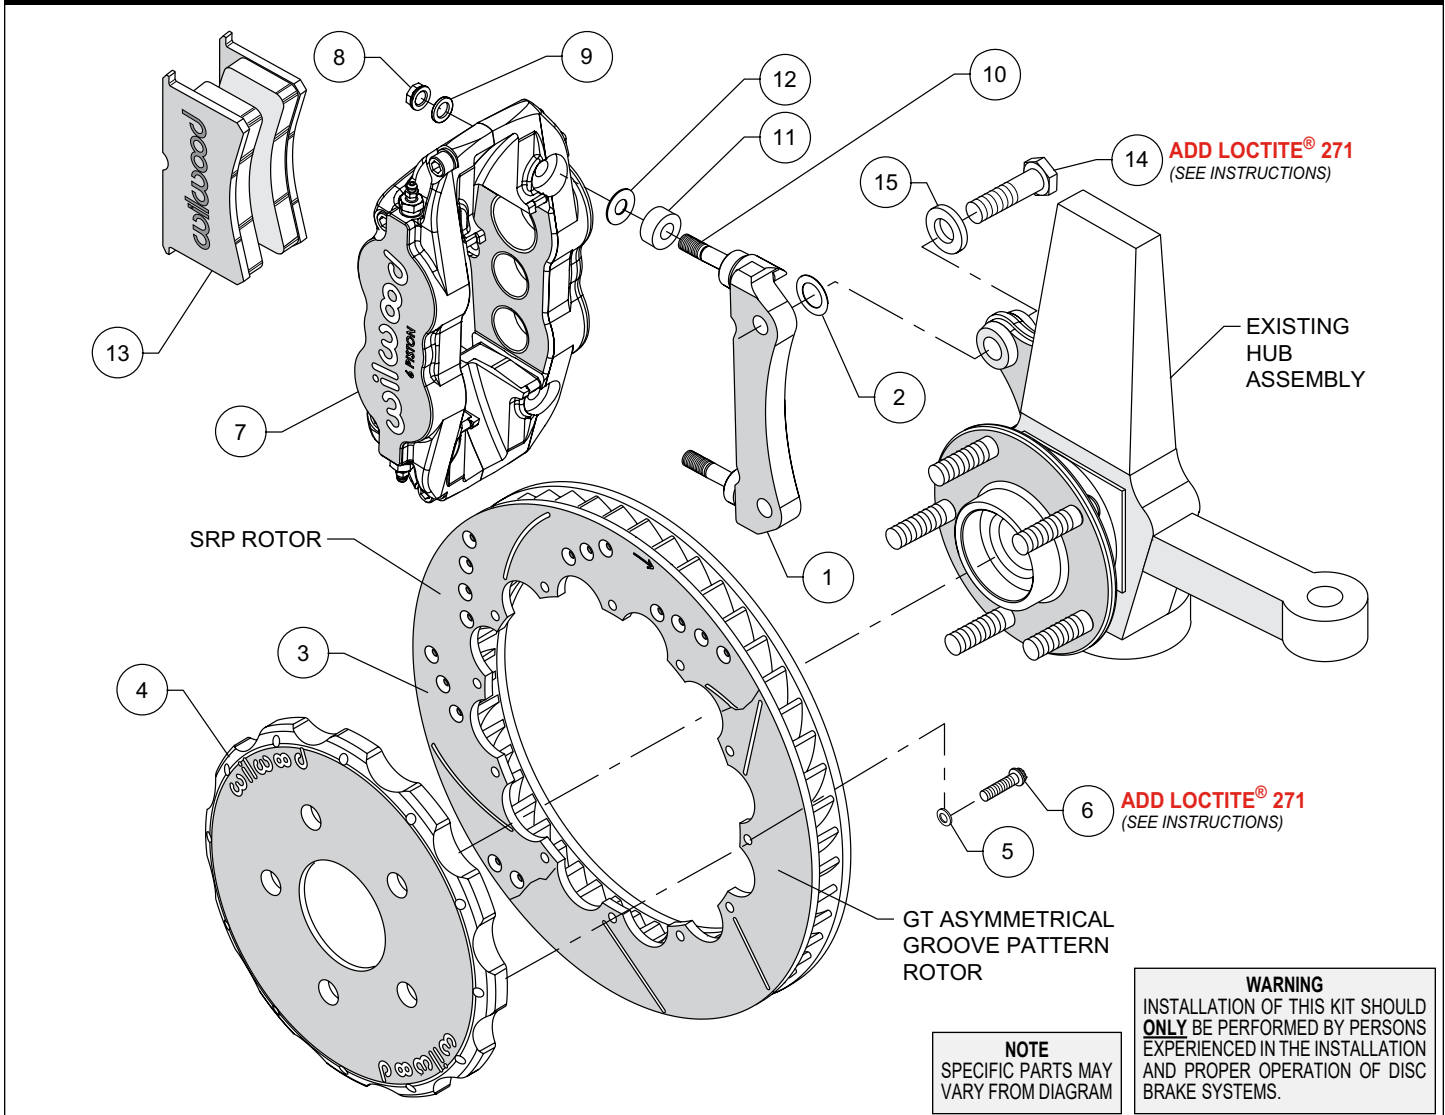
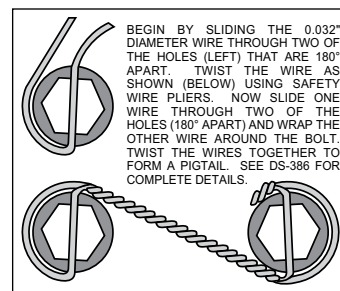

Figure 1. Typical Installation Configuration
Figure 3. Safety Wire Diagram
Assembly Instructions (numbers in parenthesis refer to the parts list and Figure 1 on the preceding pages):
- The caliper mount bracket (1) should initially be installed with clean, dry threads on the mounting bolts. Orient the bracket, as shown in Figure 1 and install using bolts (14) and washers (15). Initially place one .029" thick shim (2) on each bolt between the bracket and upright, Figure 1. Temporarily tighten the mounting bolts. **NOTE: The bracket must fit squarely against the mount bosses on the upright.** Inspect for interference from casting irregularities, machining ridges, burrs, etc. Later, after the caliper alignment has been checked, the mount bolts will be secured using red *Loctite*® 271.
- Orient the rotor (3) and the hat (4) as shown in Figure 1 and Photo 1. Attach rotor to hat using bolts (6) and washers (5). Apply red *Loctite*® 271 to the bolt threads and torque to 155 in-lb using a criss-cross pattern. For an added measure of security, the bolts may be safety wired using standard 0.032 inch diameter stainless steel safety wire as shown in Figure 3. Refer to Wilwood's data sheet DS-386 (available at www.wilwood.com/Pdf/DataSheets/ds386.pdf) for complete safety wire installation instructions.
- **NOTE: This kit contains distinct right and left hand calipers that must be mounted in a specific direction, as described below.** Initially place one .035" thick shim (12), and spacer (11) on each stud (10) as shown in Figure 1 and Photo 2. Mount the caliper (7) onto the bracket (1) using lock nuts (8) and washers (9), Figure 1. Ensure that the caliper is mounted so that the largest pistons are at the rotor exit end of the caliper, in relation to the direction of rotor rotation. Temporarily tighten the lock nuts and view the rotor through the top opening of the caliper. The rotor should be centered in the caliper, Photo 3. If not, adjust by adding or subtracting shims (2) between the bracket and the upright. Always use the same amount of shims on each of the two mounting bolts. Once the caliper alignment is correct, remove the bracket mounting bolts (14) one at a time, apply red *Loctite*® 271 to the threads, and torque to 77 ft-lb.